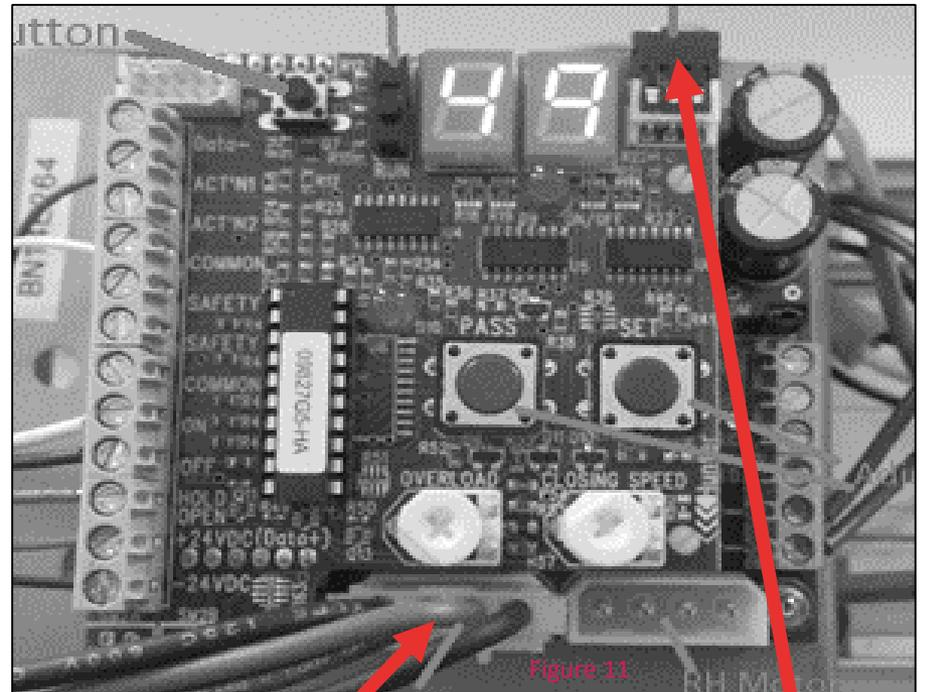

Figure 11
Step 12) Next connect the motor wires to the control board and the reed switch cable. See Figure 11